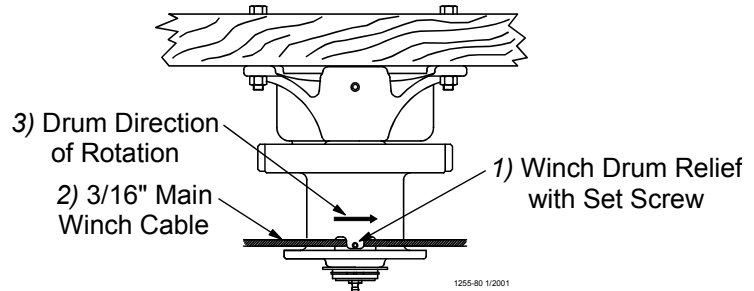

Figure 8. Attaching the Cable to the Power Winch
4. Route the cable through the Winch Drum Relief located near the bottom of the drum. Tighten the set screw to anchor the cable to the drum. See **Figure 8.**